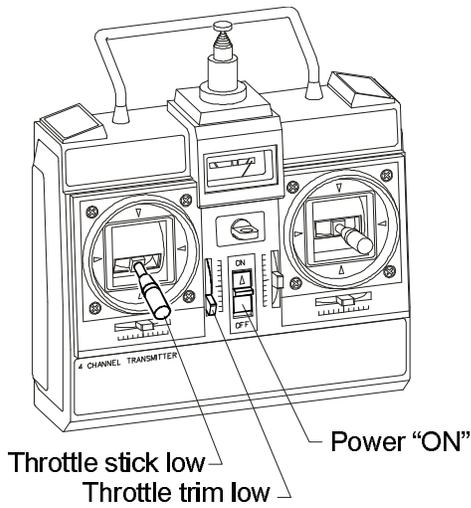

Figure 13-3.
- ❑ 5. Move the transmitter throttle stick and throttle trim lever to full low, and all other trims to neutral as shown in Fig. 13-3. Leave the transmitter on while installing the pushrods.